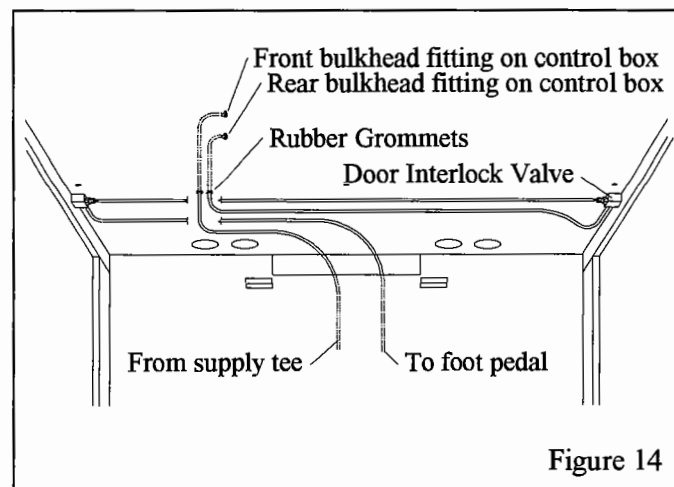
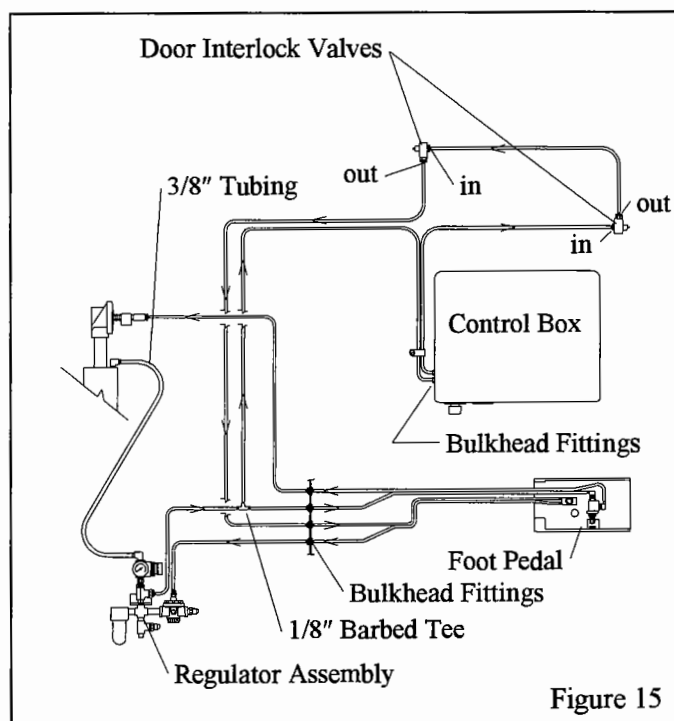

Figure 14
Figure 15
4.7 Using existing 1/8" tubing and 1/8" tubing supplied with the conversion kit, connect the air logic per the illustration in Figure 14 and the schematic in Figure 15.
4.8 Connect the 3/8" pulse manifold tubing to the pulse regulator, as shown in Figure 15.